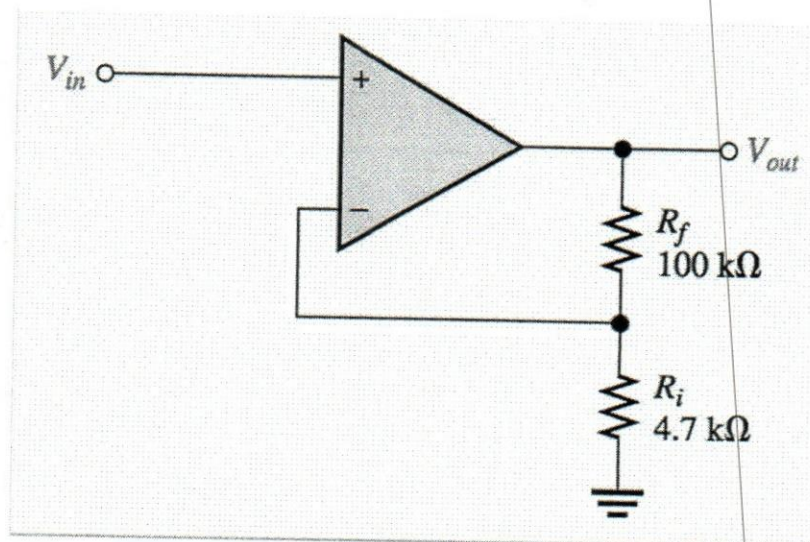

Figure 6.1
- (d) Use first principles to determine the closed-loop voltage gain of the amplifier in Figure 6.1. The Op-amp is ideal.